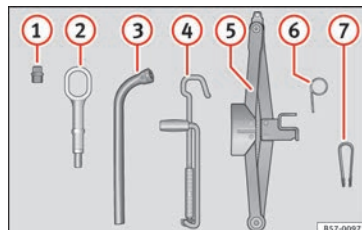

Fig. 70 Underneath the floor panel of the luggage compartment: vehicle tool kit.
- Fit the plastic clip (vehicle tools) » **Fig. 70 (7)** over the cap until it clicks into place » **Fig. 72**.